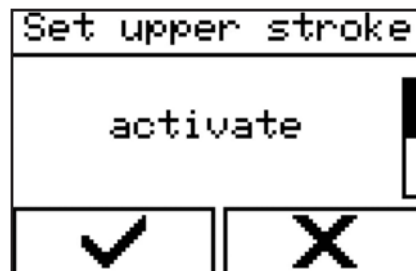

Figure 98 - Activating stroke limitation
2. Select 'Set upper stroke limit' (Figure 98).